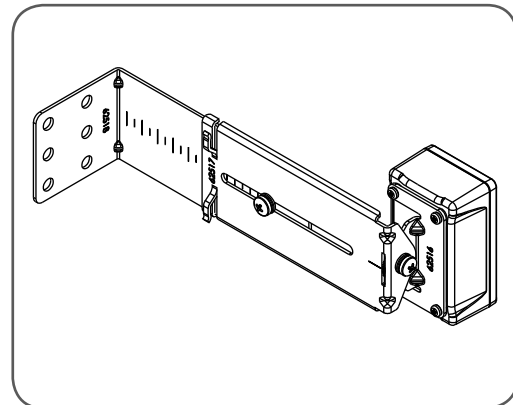

fig 47
- Attach the bracket (2) to the Safety Beam transmitter with four taptite screws (m3x5) and attach the other side to the adjustment bracket (3) with the pan head screw (6). (Fig. 47)